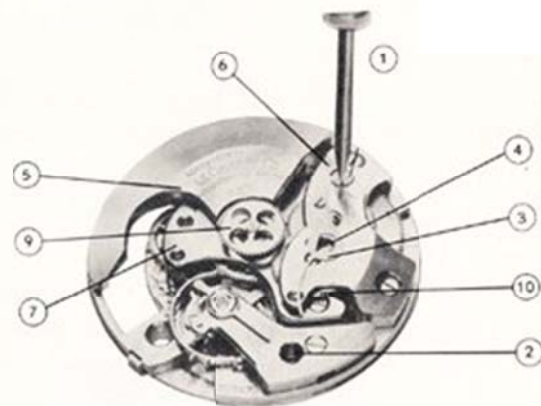
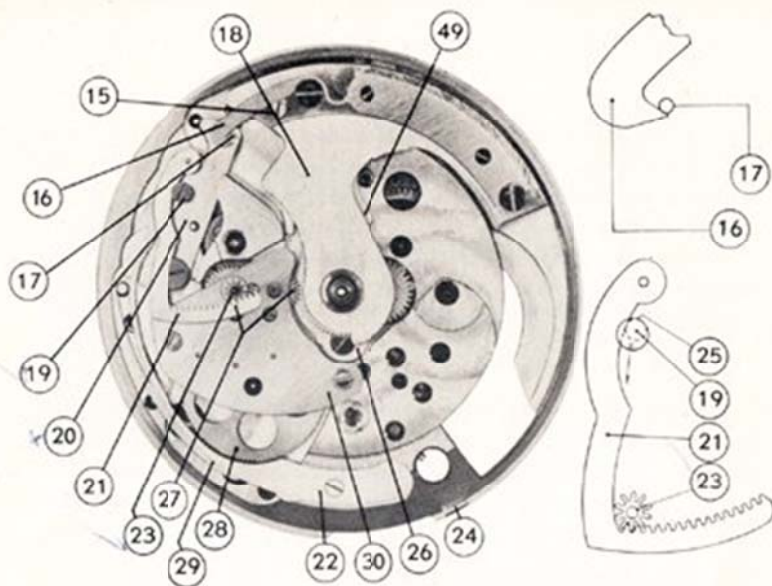
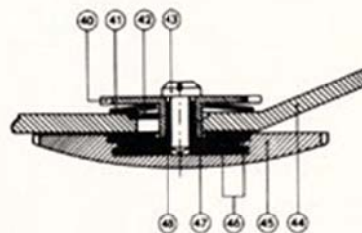
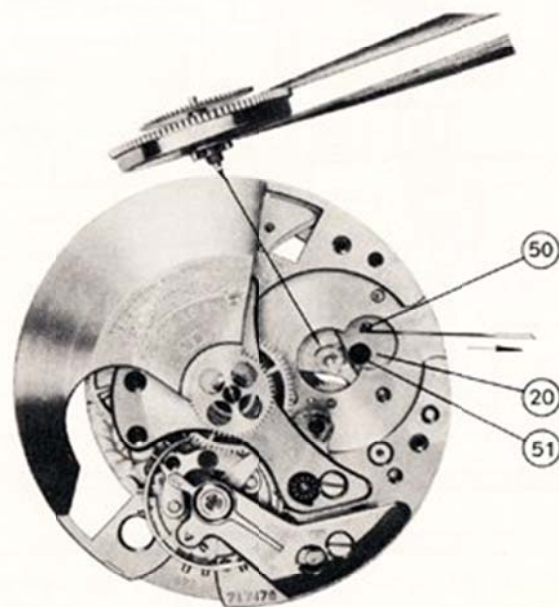

Fig. 1
Fig. 3
Fig. 5
Fig. 6
- a) Insert screw driver into the "Winding Pinion Screw" (Fig. 1) indicated by an arrow on the *Barrel Bridge*.
- b) Release the *Click* visible through the aperture (2) in the *heel of the Balance Cock*, and with the screw driver held firmly on the *Winding Pinion Screw* (Fig. 1), allow mainspring to slowly unwind.
The *Barrel* is now ready for mounting on the movement. If *Lever 20* (Fig. 3 & Fig. 6) is in place, pull it outwards by *Pin 20* using a fine *Hook* (see Fig. 6); this is to allow passage of *Pivot 13* and *Disc 11* over *Cone 51*.
- Check if *Pinion 23* (Fig. 3 & 3a) of *Reserve Indicator* is resting well against back of toothed portion of section 21 (as in Fig. 3a).
- Adjust *Eccentric 19* (Fig. 3 & 3a) so that it does not rest against section 21, but has a slight clearance (1 to $\frac{2}{100}$ ths) at point 25 in the groove of the *Eccentric*.
- Then unwind the *Mainspring* 4 turns at *most* by means of *Screw 1* (Fig. 1).
- Adjust hook-shaped part 16 (Fig. 3) by means of the *Eccentric 15* so that it just engages with *Pin 17* (Fig. 3b).
- a) Place *Hand-Setting Crown* 45 (Fig. 5) in pulled-out position.
- b) Check if *Balance Stop Spring* 3 (Fig. 1) is well-adjusted so that the hand of the *Hand-Setting Crown Screw* 43 (Fig. 5) falls into place at the entry 4 of *Lever* 3 (Fig. 1).
- c) Minute wheel, hour wheel; lubricate; fix oscillating weight bridge; bridge 26 (Fig. 3) and screw.
- d) Train wheel, bridge 7 (Fig. 1) and screw.
- g) Stop lever 20 (Fig. 3).
- o) Place oscillating weight in position (5 in Fig. 1 + 18 in Fig. 3) (special screws).